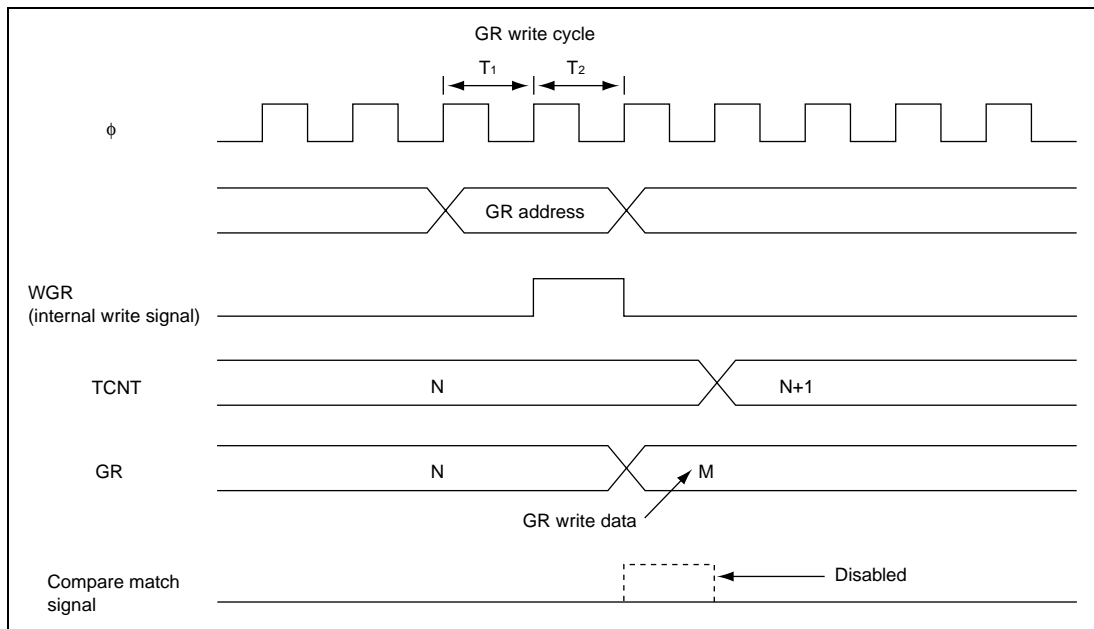

Figure 13.54 Contention between GR Write and Compare Match
3. **Contention between GR Write and Compare Match:** If a compare match occurs in the T_2 state of a GR write cycle, GR write has priority and the compare match signal is disabled. Figure 13.54 shows the timing in this case.